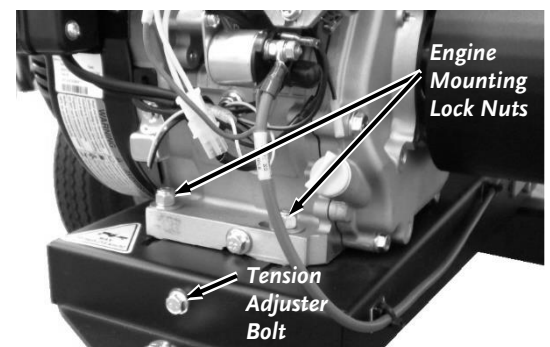

Figure 24
5. Loosen the four Engine Bolts (two in the Front and two in the Rear) using a 9/16" Wrench (**Figure 24**).
2. Loosen the four Engine Lock Nuts (two in the Front and two in the Rear) using a 9/16" Wrench (**Figure 24**).
6. Tighten the Engine Lock Nuts (**Figure 24**).